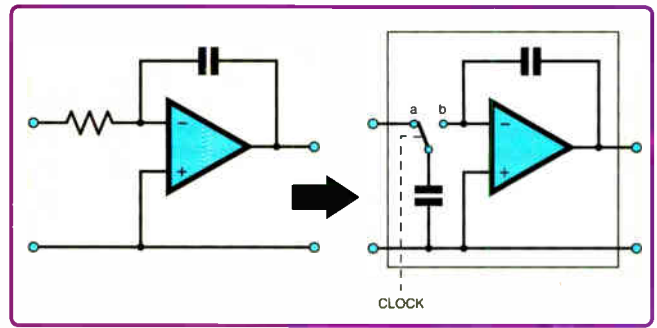

Fig.2. Traditional op amp integrator (left) and its capacitor/clocked switched filter (right)
A neat solution is a switched-capacitor filter device such as National Semiconductor's MF10 integrated circuit (IC). In this chip, traditional op amp integrators are replaced by on-chip capacitors and clocked switches as shown in Fig.2.